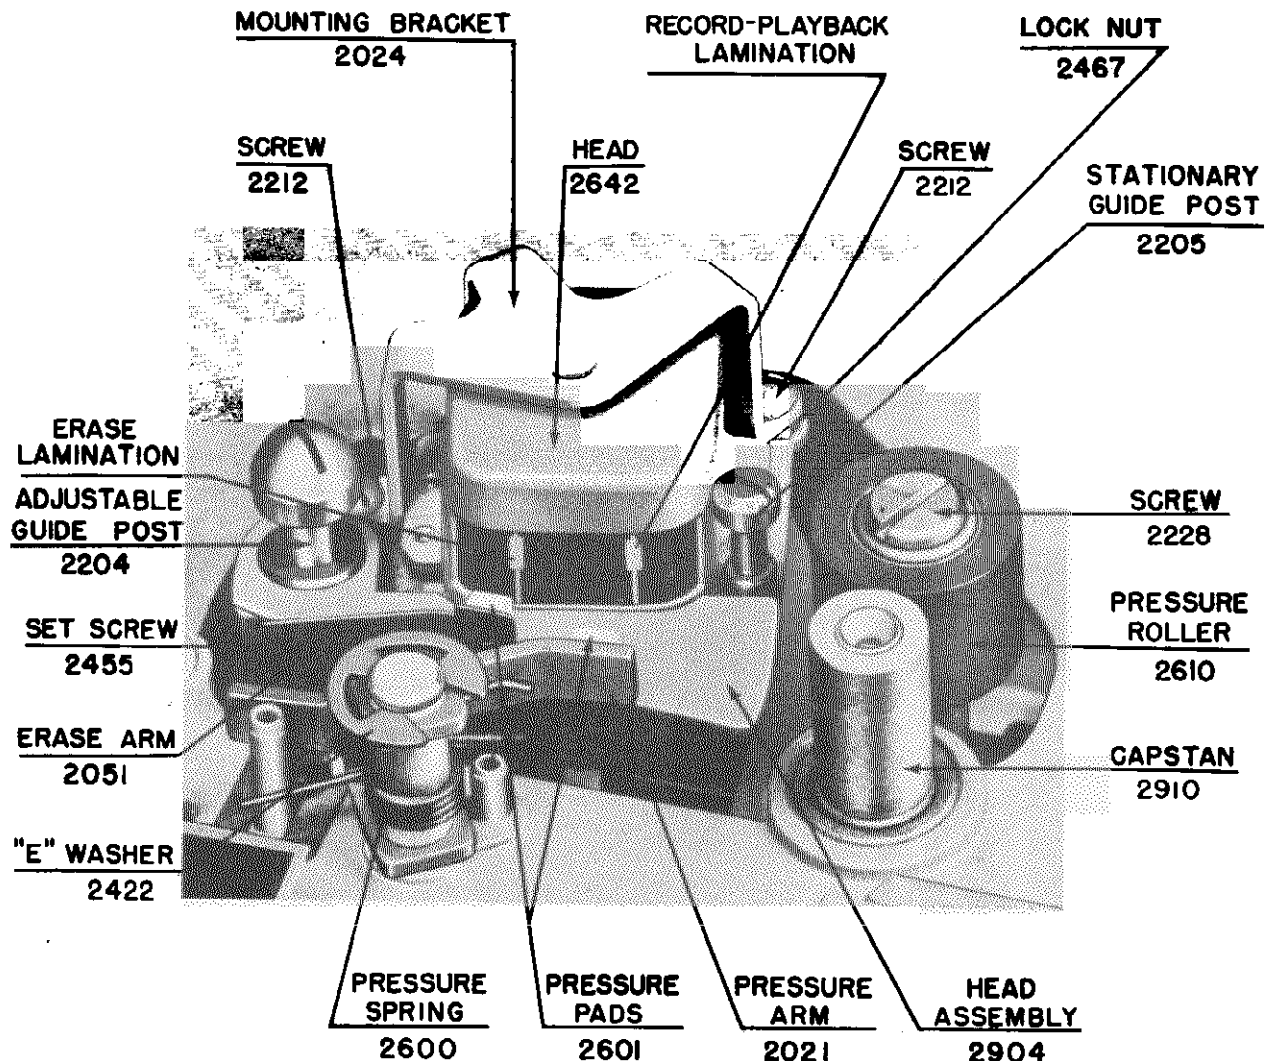

FIG. 2 - Recorder with Head Covers Removed Showing Head Mechanism.
- (1) Remove head covers.
- (2) Remove mounting bracket #2024 (note assembly of #2212 screws and #2467 lock nuts, see Fig. 2).
- (3) Remove head wire leads from clips on under side of top casting and remove head plug from socket.
- (4) Place Function switch in PLAY position and remove head wiring and plug through clearance in casting.